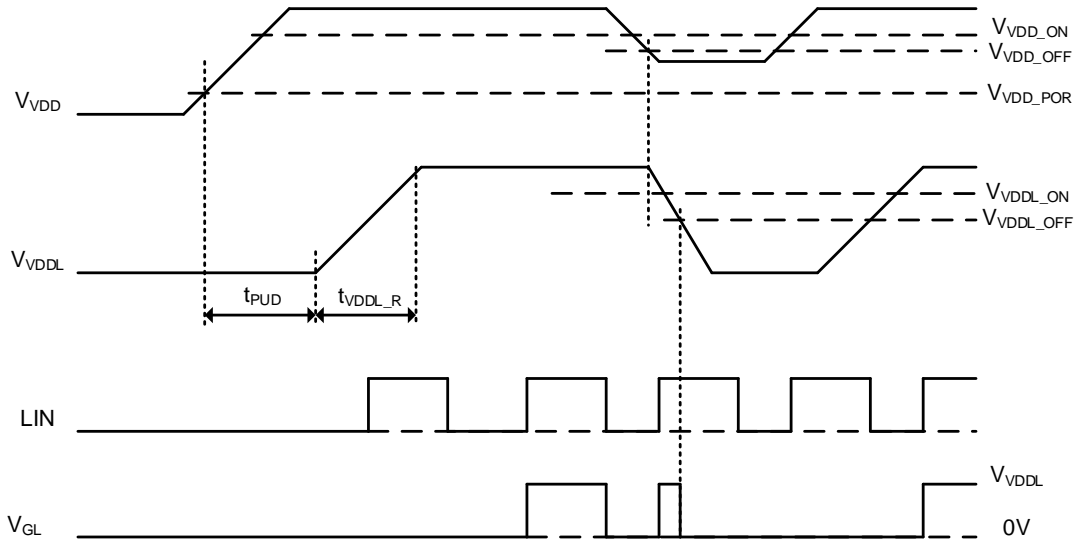

Figure 7.1 VDD UVLO Diagram
1) See detail in Figure 7.1.
The NSG65N15K has internal under voltage lock out (UVLO) protections on low side power supply blocks. The driver output is held low by an active clamp circuit when the supply voltage of VDD is lower than V_{VDD_ON} at power-up status or lower than V_{VDD_OFF} after power-up, regardless of the status of the input pins. Figure 7.1 shows the startup timing sequence.